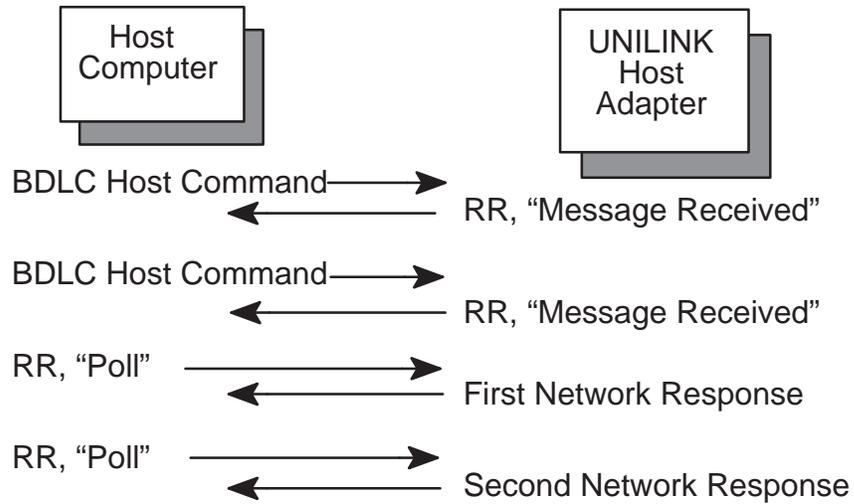

Figure 3-9 BDLC Multiple Outstanding Transactions
- Additional throughput improvements are gained by using the multiple outstanding transaction capability, illustrated in Figure 3-9. This allows the host computer applications software to continue issuing commands before the network response is returned. The host computer can issue a network request to secondary device #1, then another to secondary device #2, followed by the command to retrieve the response from secondary device #1.